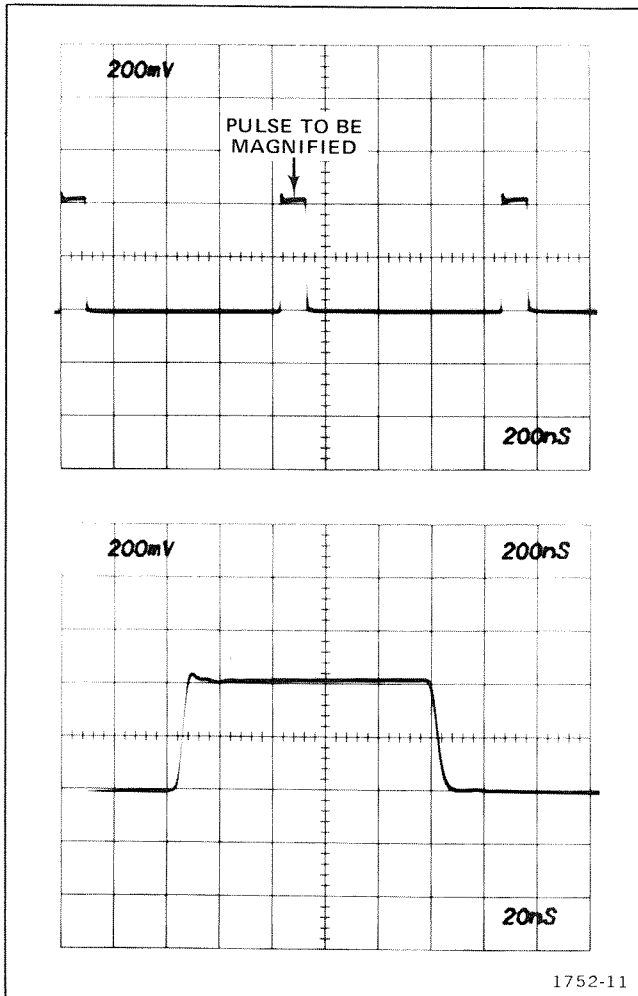

Fig. 2-10. Using delayed sweep for magnification.
4. Set the TIME/DIV OR DLY TIME switch to a sweep rate which displays the complete waveform (see Fig. 2-10).
Example: The apparent magnification of the display shown in Fig. 2-10 with a TIME/DIV OR DLY TIME setting of